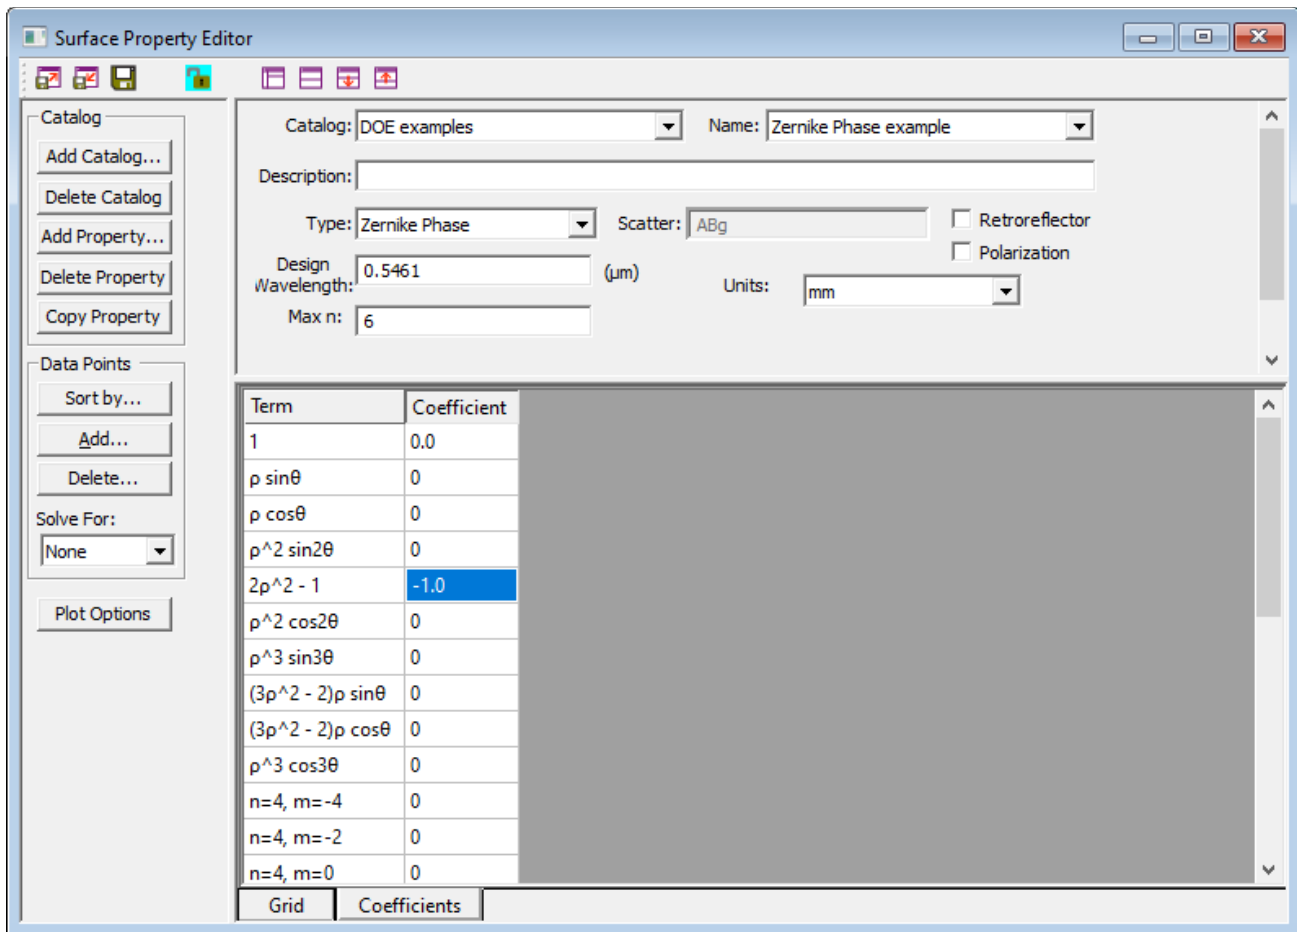

Figure 14. ゼルニケ位相のサーフェス特性の例
8. Select the **Coefficients** tab and enter -1.0 for the $2\rho^2 - 1$ term. The completed property should appear as in Figure 14. Save the property and close the **Surface Property Editor** window.